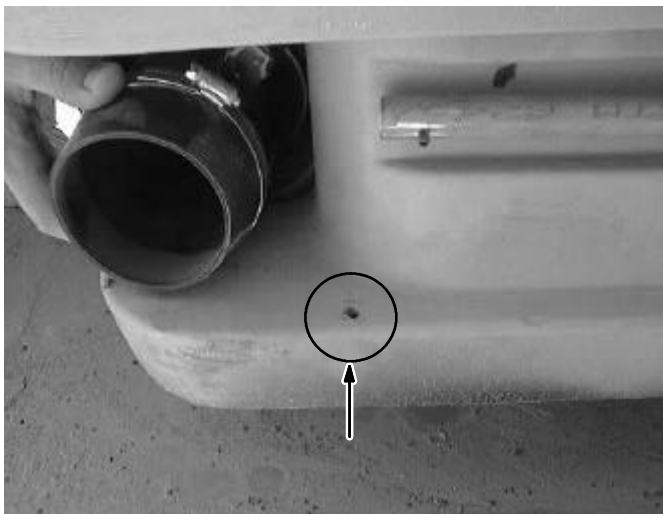

FIG. 4 - MIDDLE DOOR MOUNTING HOLE LOCATION
(Refer to FIG. 4 and 5)
6. Invert the door once again so that it is now in the correct mounting position. (Refer to FIG. 4)
7. Slide the spring (5) and required spacers (6) over the upper pin of the door (4).
(Refer to FIG. 4)
8. Install the top pin in the upper part of the bumper, and then compress the spring (5) until the lower pin can slide into the lower hole in the bumper. The door should have enough spacers on the pin that it needs to be firmly forced into the mounting holes. (Refer to FIG. 4)